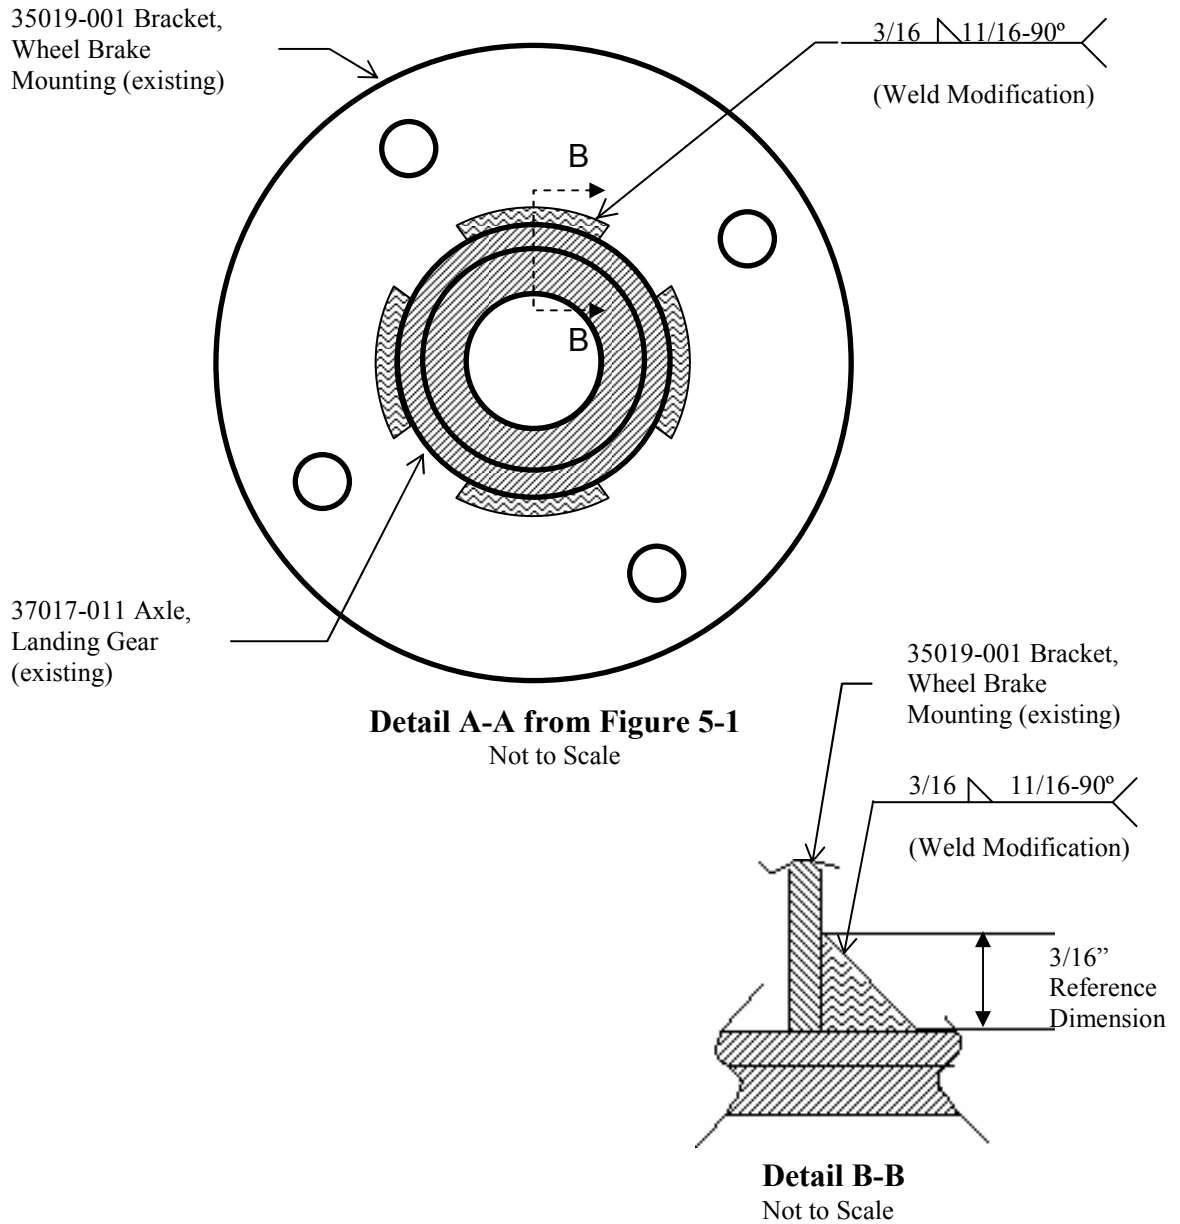

Figure 5-2 Weld Detail for Axle and Bracket
The modification entails increasing the fillet weld size to 3/16 inches. On early models, the factory fillet weld was specified at 3/32 inches. This must be increased to 3/16 inches to increase the margin of safety. The running lengths of each of the 4 fillets welds per gear will remain unchanged. A detailed view of the new weld specification is contained in Figure 5-2.
10. The modification only entails increasing the fillet size of the existing weld; the length will stay the same. Complete the welding so the reference dimension of all welds is 3/16 inches or larger as drawn in Figure 5-2. There are four welds on each side of the aircraft.